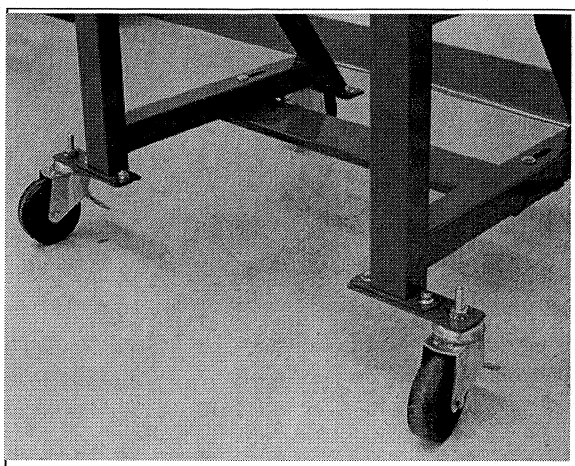

Figure 1—Caster Adapter Modification Kit
3. Mount one caster adapter plate to the bottom of each stand foot with the caster mounting hole on the outside of the frame as shown in Figure 1.